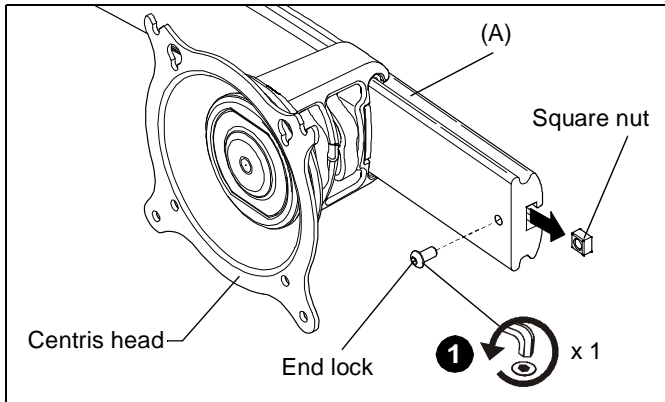

Figure 4
1. Uninstall end lock from dual array assembly (A) using the 5/32" hex key (J). (See Figure 4)